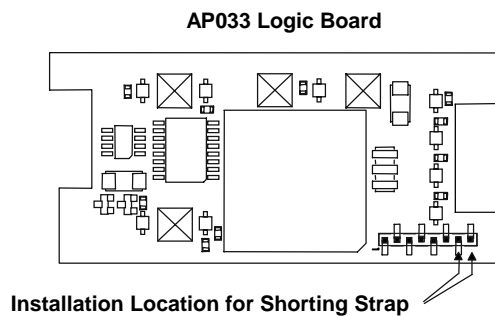

Figure 9
5. Insert the two pin shorting plug into the socket on the Logic board. Use the two holes closest to the probe cable. (See Figure 9.)
3. Reinsert the shorting plug into the two holes near the end of the Logic Board. (See Figure 9.)